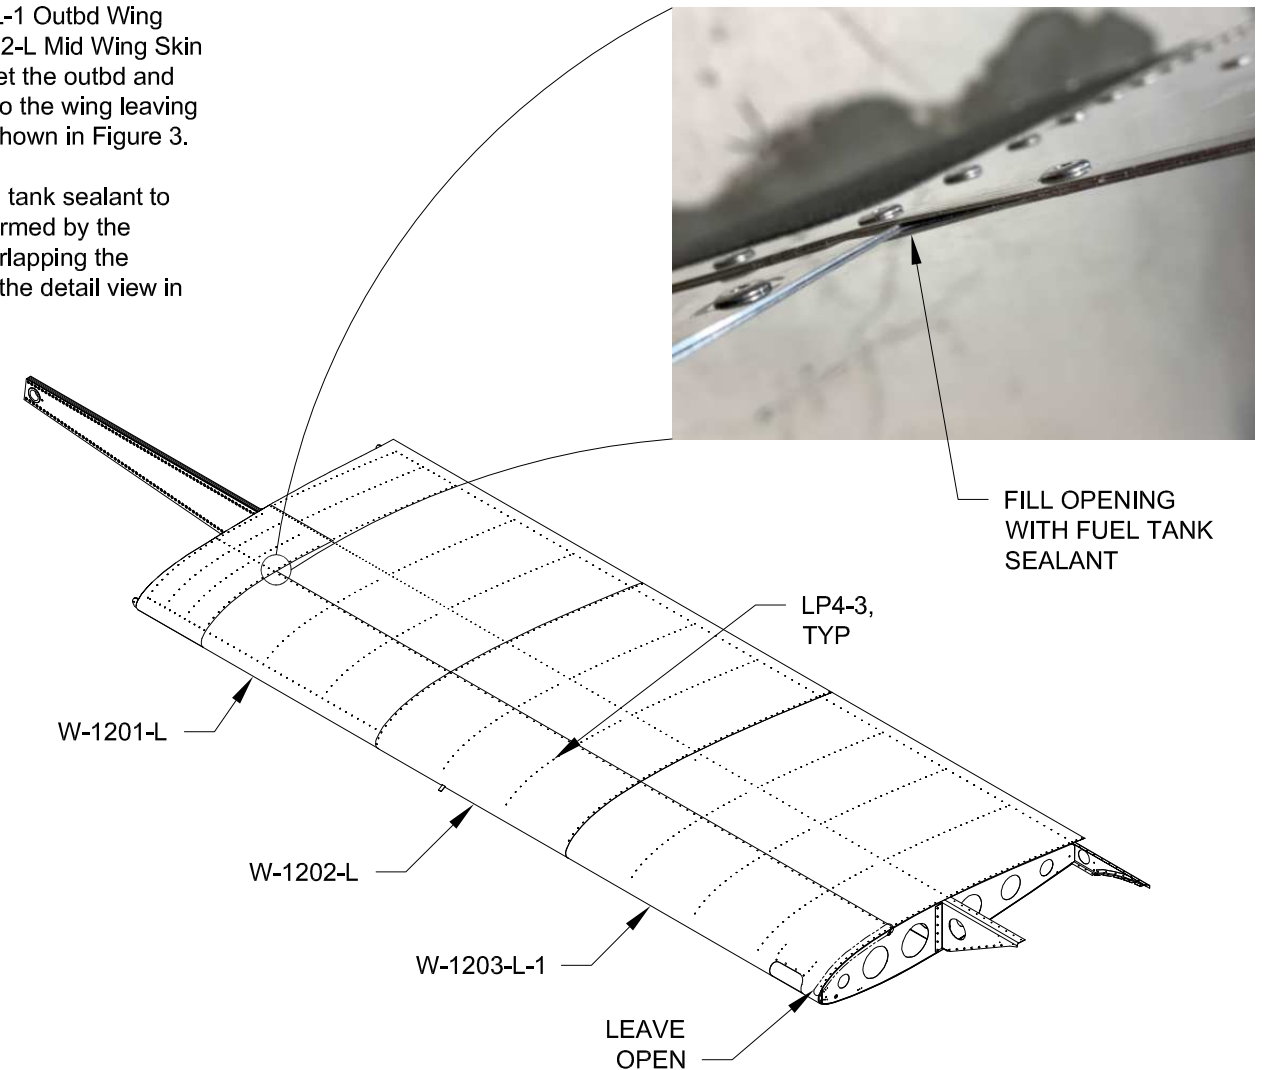

FIGURE 3: RIVETING MID AND OUTBOARD WING SKINS
Step 5: Cleco the remaining portion of the W-1203-L-1 Outbd Wing Skin and W-1202-L Mid Wing Skin to the wing. Rivet the outbd and mid wing skins to the wing leaving open holes as shown in Figure 3.
Step 6: Add fuel tank sealant to close the gap formed by the W-1201C-L overlapping the W-1201-L. See the detail view in Figure 3.